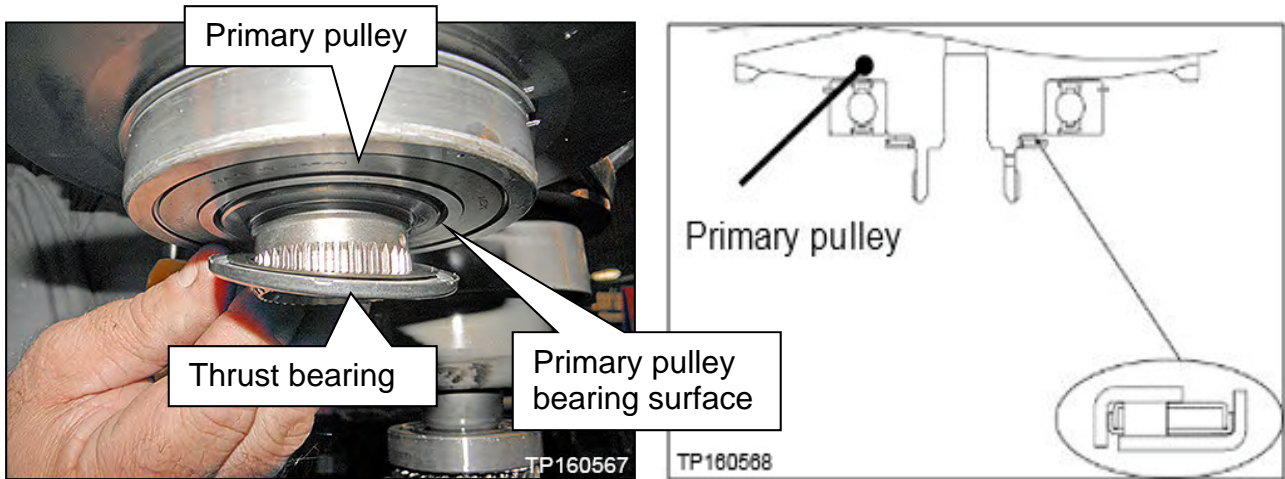

Figure 89
66. Install the original thrust bearing onto the primary pulley of the new sub-assembly (Figure 89).
IMPORTANT: The thrust bearing has two different sides. Reference Figure 89 for correct bearing orientation.
- The thrust bearing must sit flush with primary pulley surface (Figure 89).